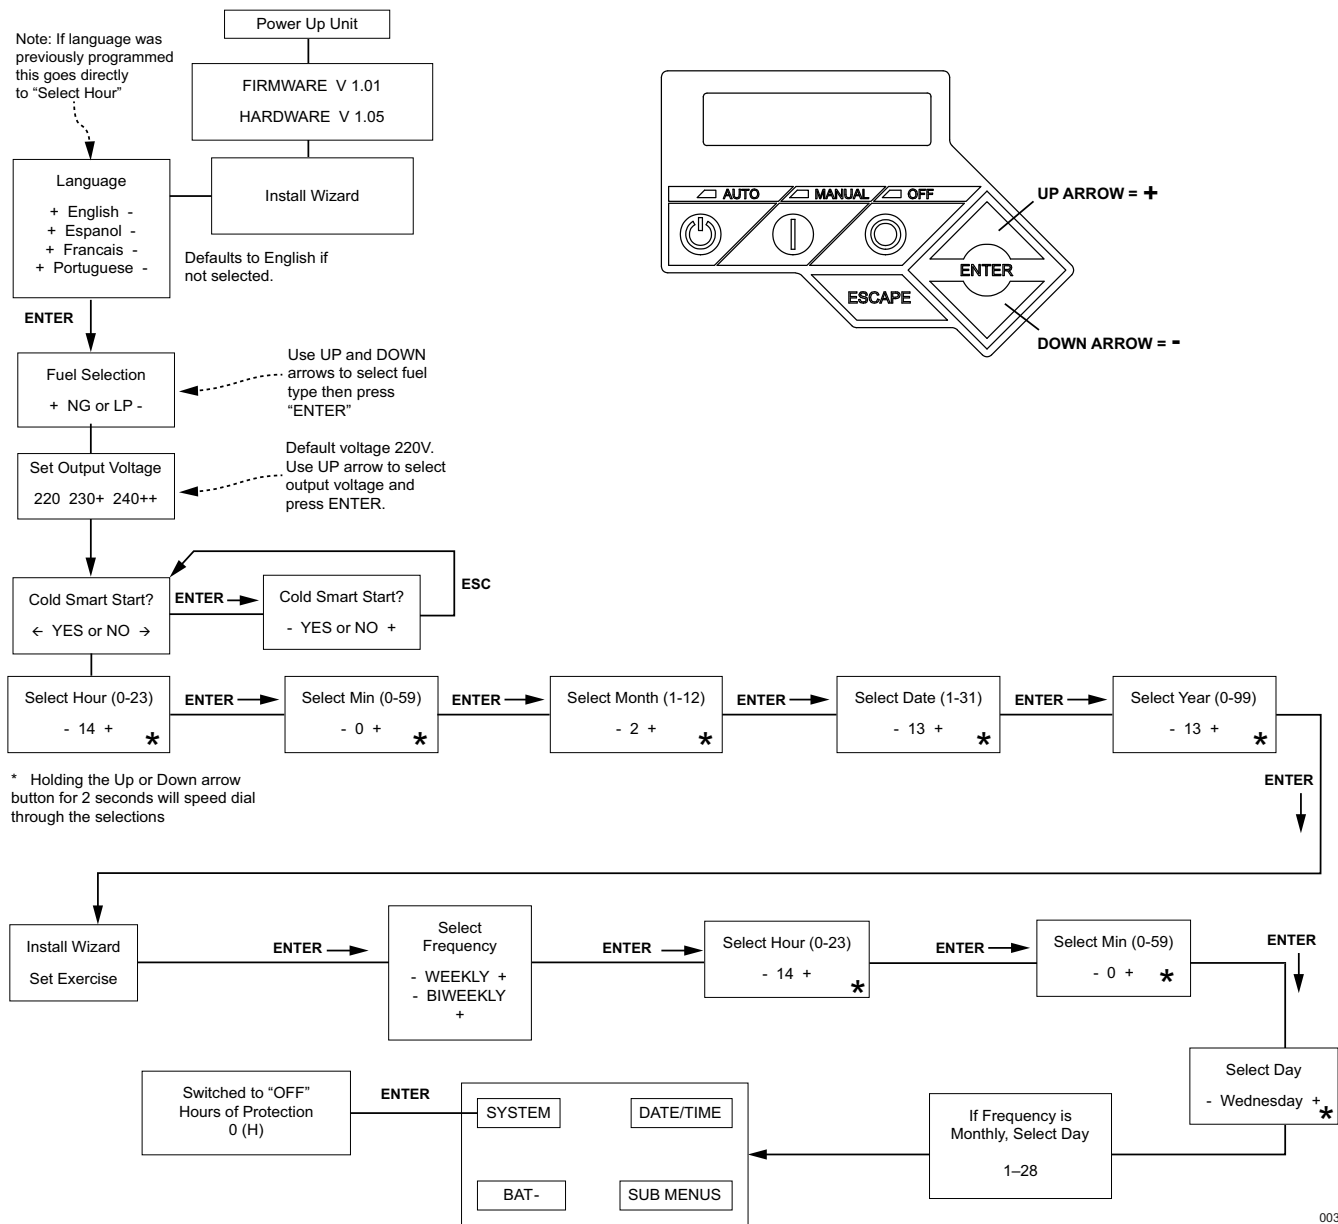

Figure 7-2. Installation Wizard Menu Map
The installation wizard immediately appears upon power-up. It allows the user to input generator settings. See Figure 7-2.
4. Follow the steps described in the Installation Wizard (Figure 7-2). Place controller in AUTO. Allow the unit to run for one minute with no load.